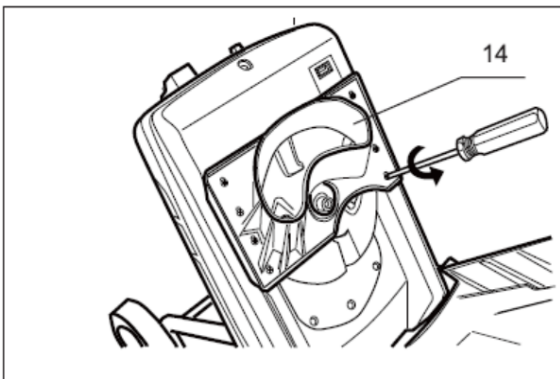

Fig. 8
3. Uninstall the blade defend block (14) (Fig.8)